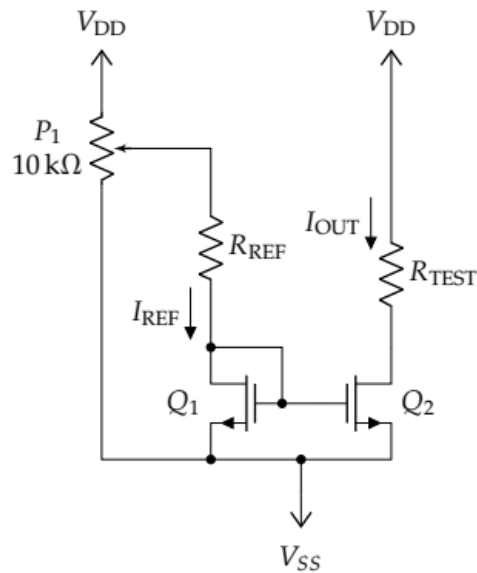

Figure 4.10: Circuit for testing a current mirror.
1. Build the circuit shown in figure 4.10 using the ALD1106 with $R_{REF} = R_{TEST} = 1\text{ k}\Omega$.